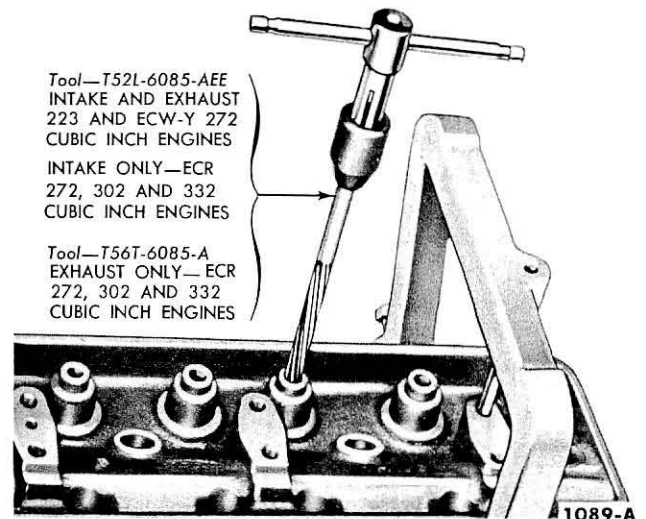

Fig. 7—Reaming Valve Guides—Typical
**REAMING VALVE GUIDES.** If it becomes necessary to ream a valve guide (Fig. 7) to install a valve with an oversize stem, a reaming kit is available which contains a 0.003-inch O.S. reamer with a standard diameter pilot, a 0.015-inch O.S. reamer with a 0.003-inch O.S. pilot, and a 0.030-inch reamer with a 0.015-inch O.S. pilot.